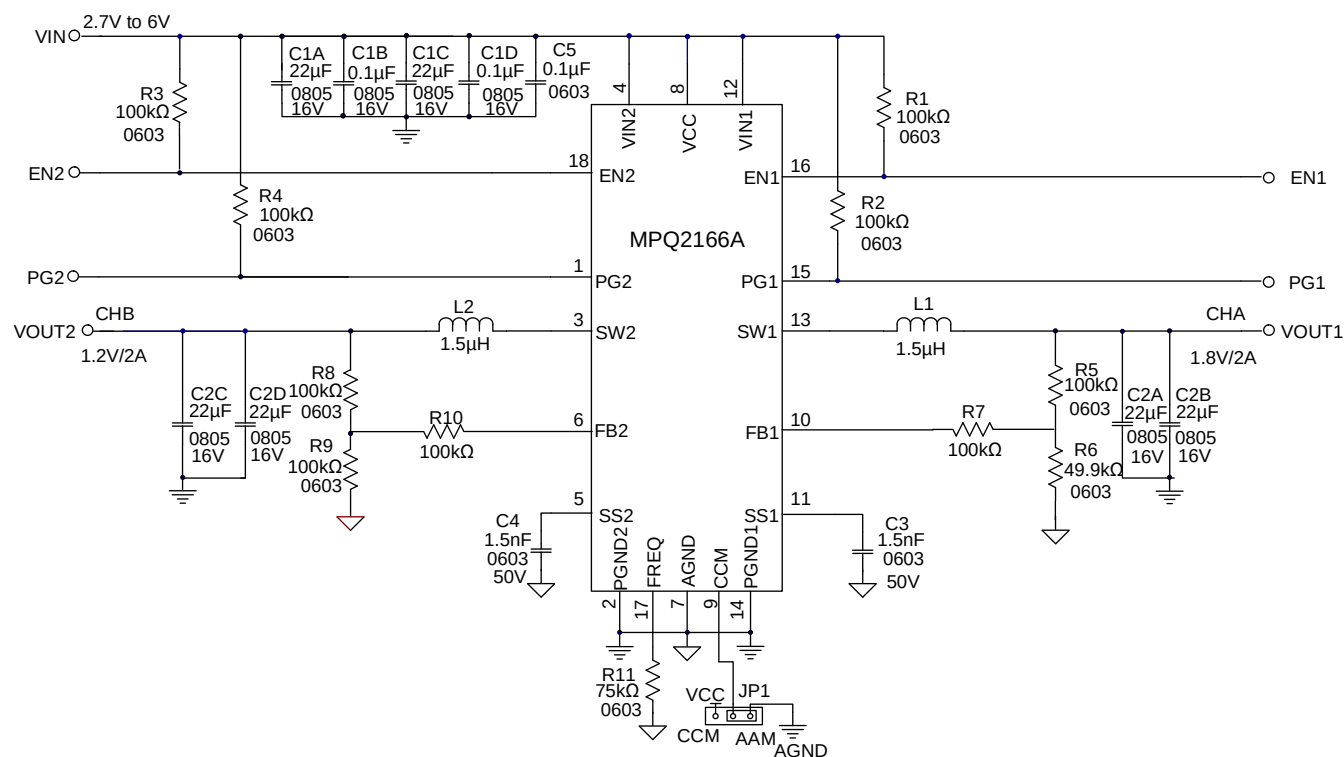

Figure 7: 2A/2A Application Circuit
- 8) The recommended PCB layout is based on Figure 7.